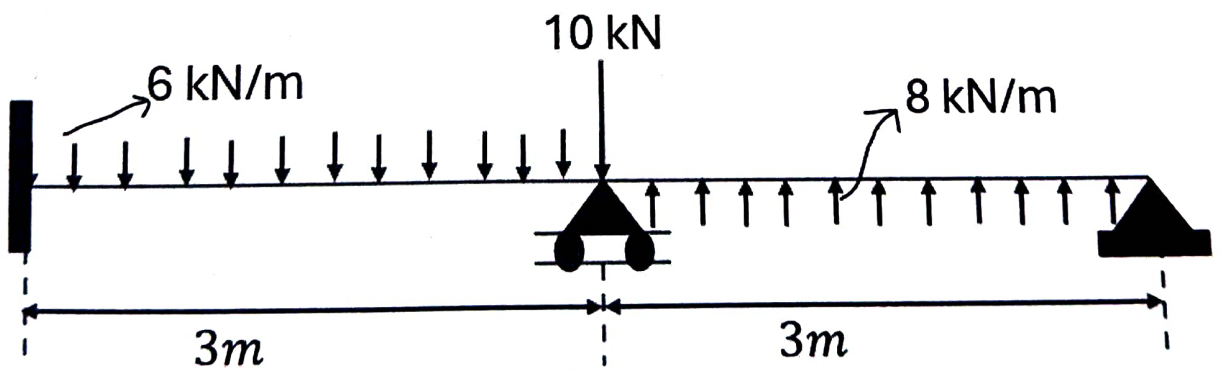

Figure 3
- Q.3. For the beam shown in the Figure 3, write the assembled stiffness matrix and the assembled force vector. Assume the Young's modulus as E (kN/m^2), moment of inertia as I (m^4) throughout the beam. [10 Marks]